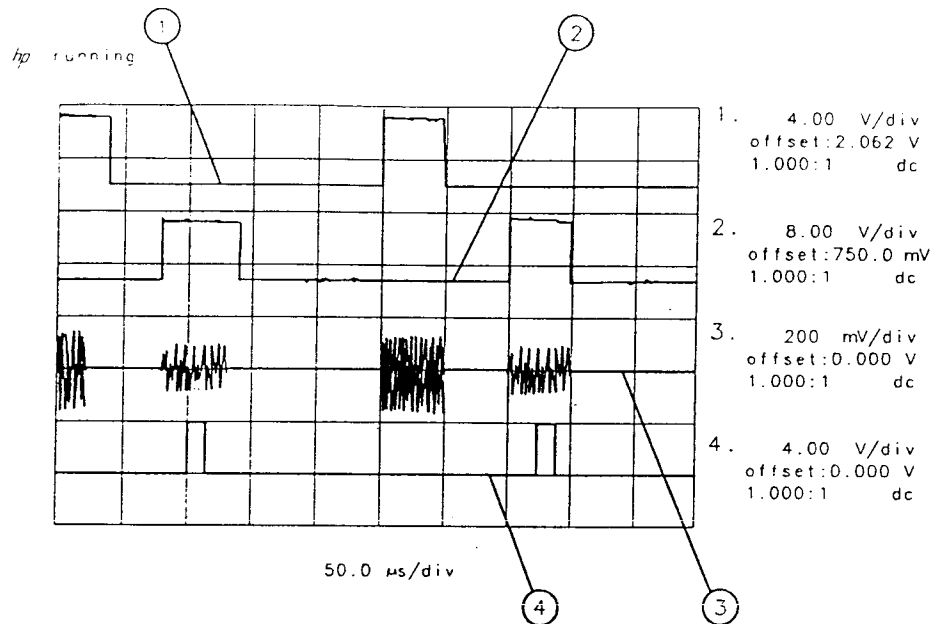

Figure 2-61. Placing the Gate Output During the Second Signal
- To view the second signal, change the gate delay so that the gate output is under the second signal. Since the second signal had a signal delay of approximately $85 \mu\text{s}$, we set the gate delay to $85 \mu\text{s}$ plus the pulse width/2, or $110 \mu\text{s}$. Press **[SWEEP]**, **GATE MENU**, 110 **[μs]** to set the gate delay to $110 \mu\text{s}$. Using an oscilloscope can be helpful in placing the gate output during the pulsed signal. See Figure 2-61.